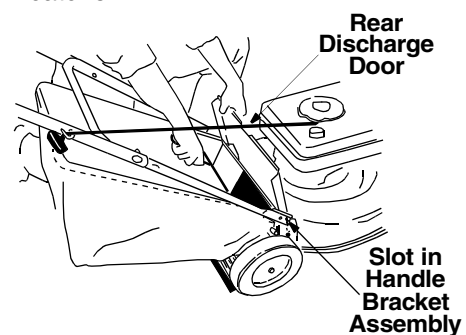

Figure 8
- Place the hooks on the grass catcher into the slots in the handle bracket assemblies. See Figure 8. Release the rear discharge door.
- Lift the rear discharge door and install the mulching baffle. See Figure 8.